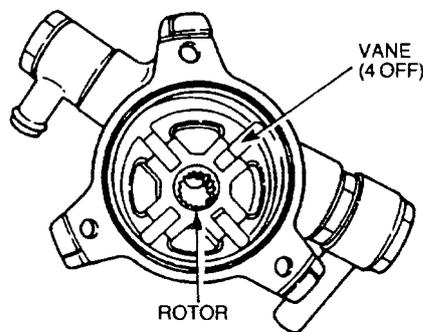

Figure 305 Installing the Vacuum Pump Rotor and Vanes
- (2) Insert the vacuum pump rotor in the housing with the serrated boss uppermost. Fit the vanes in the rotor with the round end towards the housing (Figure 305).